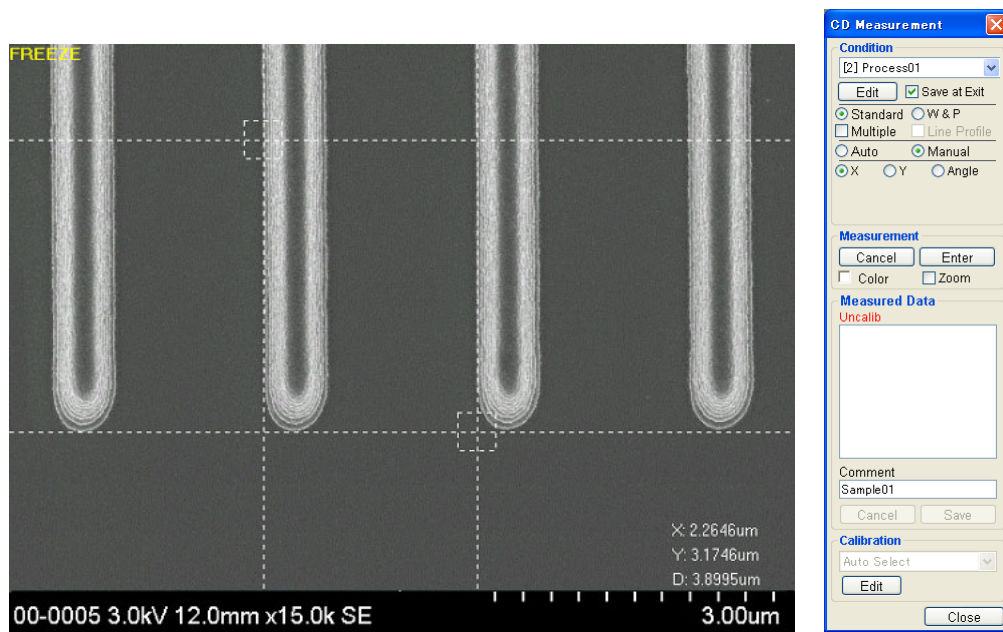

Fig. 6.4-19 Manual Measurement Cursor Display
(1) Manual Measurement
- (a) With the measurement type at **Standard**, measurement mode at **Manual** and measuring direction at **X** or **Y**, click the **Set** button on CD Measurement window, and measurement cursors as shown in Fig. 6.4-19 will appear.